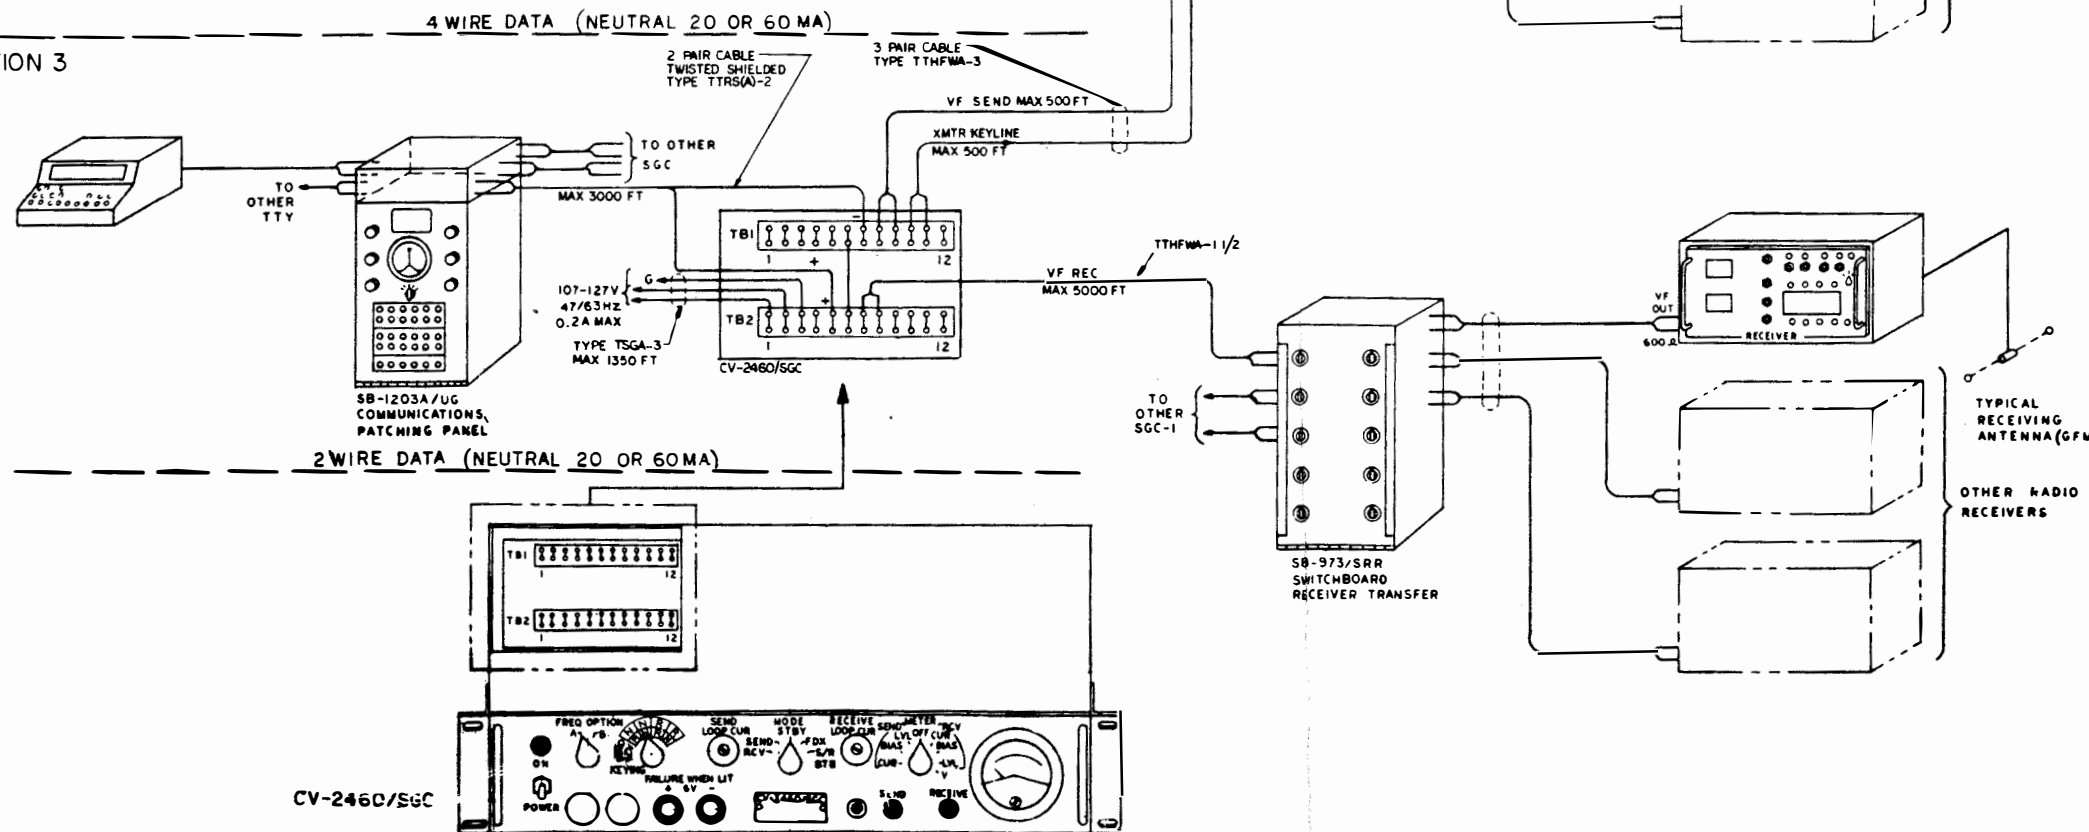
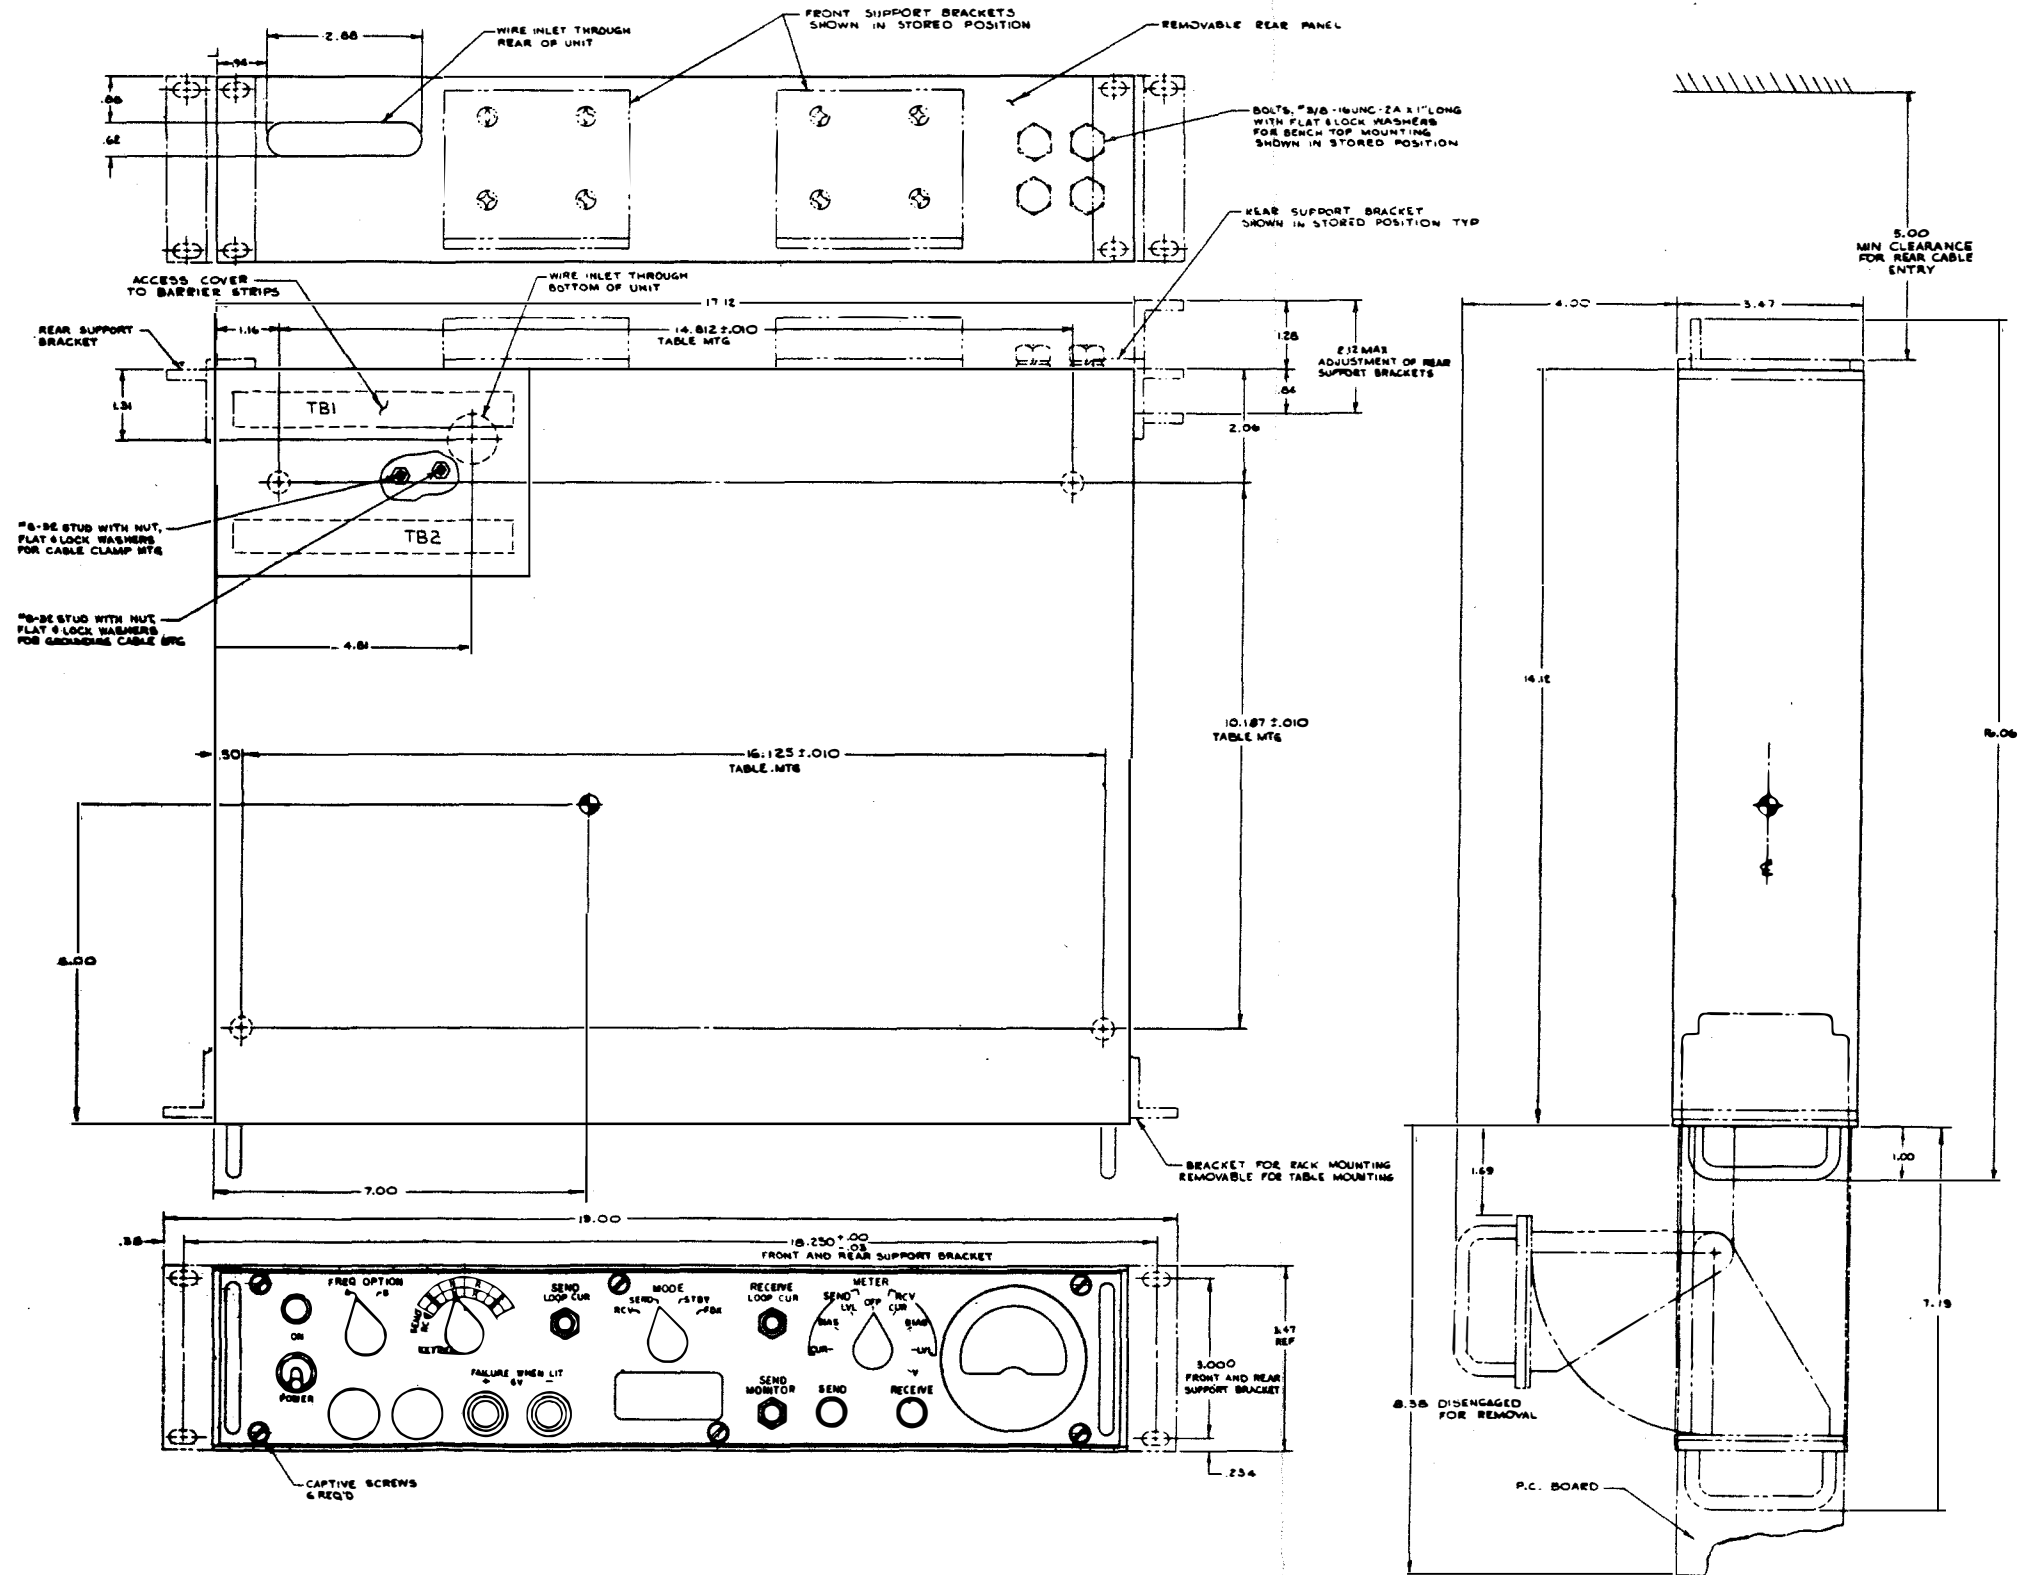

Figure 8-1. System Installation
Figure 8-2. Mounting Dimensions
8-6. MOUNTING. The Converter may be secured to a standard 19-inch relay rack, or it may be solidly mounted to a bench. The Converter also has provisions for shock-mounting. The mounting holes are spaced to mate with existing shock mounts where the Converter is used to replace Radio Teletype Terminal Set AN/SGC-1A. Mounting dimensions are shown in figure 8-2.
- b. Using the screws, fasten the four L-brackets to the front and rear of each side of the enclosure as shown in figure 8-2.
In accordance with specific Navy installation requirements (NAVELEX 0967-LP-306-1010) make the appropriate connections, of those listed in table 8-2, to terminal boards TB1 and TB2 (see figure 8-2 and pictorial system diagram, figure 8-1).